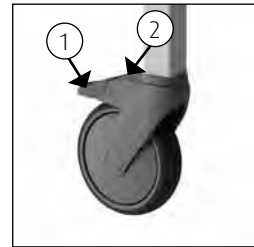

Figure 1: Wheel blocking
- The brake can be applied on the shower stretcher / dressing table by pushing the blue lip (1) on the wheel downwards (See figure 1).
- In order to take the shower stretcher / dressing table off the brake, the same lip on the wheel must be moved upwards by tapping the upper side of the lip (2) (See figure 1).